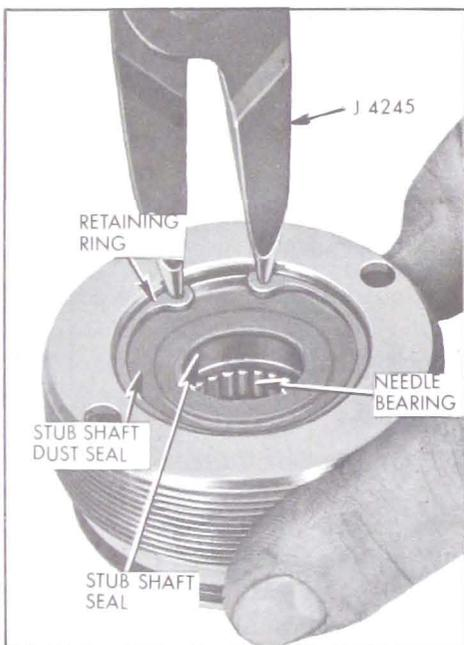

Figure 8-36—Removing Stub Shaft Seal Retaining Ring
3. Remove stub shaft seal retaining ring using No. 3 Truarac Pliers J-4245 and remove and discard dust seal. See Figure 8-36.